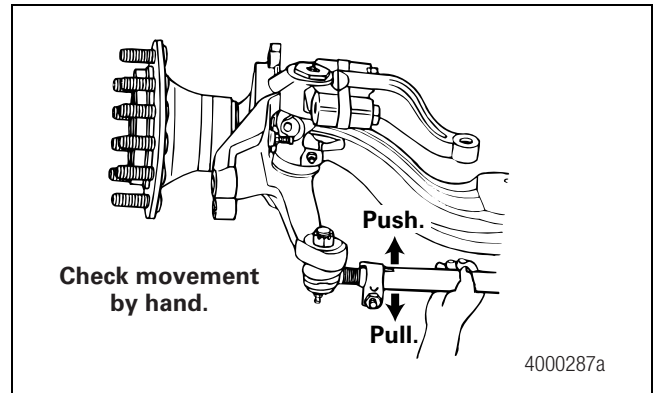

Figure 3.21
10. Apply hand pressure of approximately 100 pounds in a vertical **PUSH** and **PULL** motion several times. Check for any movement or looseness at both tie rod ends. Figure 3.21.